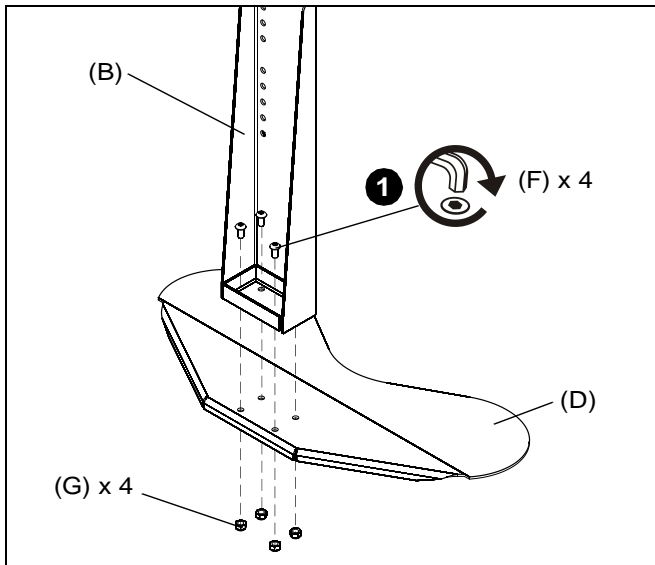

Figure 1
1. Using four 5/16-18 x 5/8" button head cap screws (F) and four 5/16-18 Nylock nuts (G), secure post assembly (B) to base assembly (D). (See Figure 1)